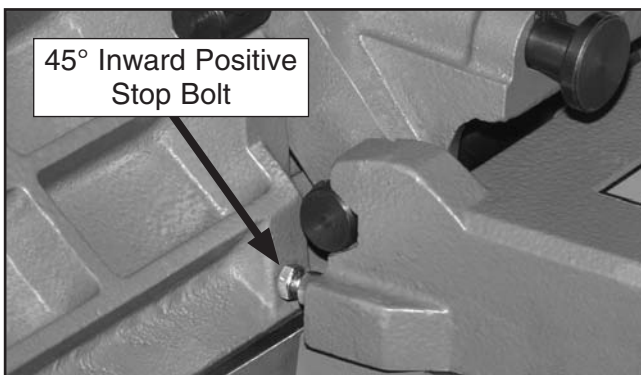

Figure 74. 45° inward positive stop bolt.
2. Loosen the jam nut on the 45° inward positive stop bolt shown in **Figure 74**.